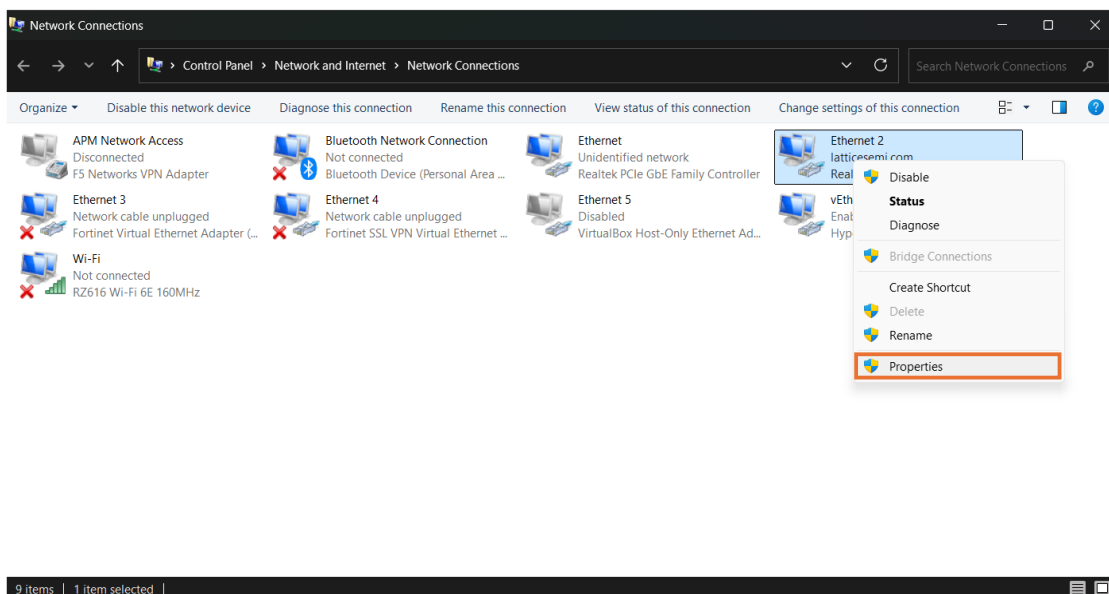

Figure 5.22. Network Connections
- Right-click on the adapter which is connected to the internet and select **Properties** as shown in Figure 5.22.
5. Right-click on the adapter which is connected to the internet and select **Properties** as shown in Figure 5.22.